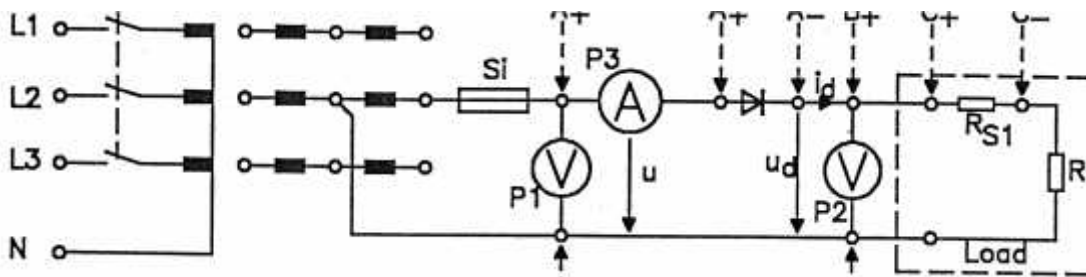

Figure 1. Single pulse rectifier rectifier with ohmic load of 33
- Connect the power circuit as shown in Figure 1, while using the supply voltage of 45V and a load resistance of 33 Ω , (three 100 Ω resistance connected in parallel)